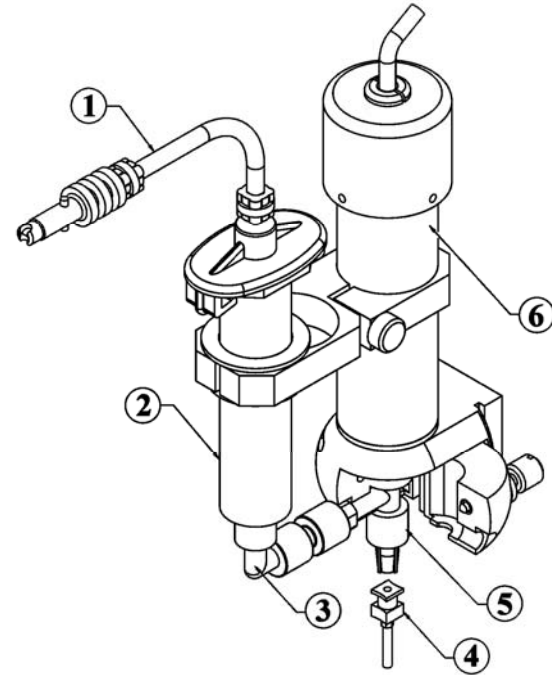

Figure 1.0
## 4. THEORY OF OPERATION (refer to figure 1.0)
**Removal of a feed path assembly:** Refer to figure 1.0
1. Release fluid pressure by disconnecting the air hose (1).
2. Remove syringe barrel of fluid (2) from the valve.
3. Remove dispense tip (4).
**Installation of a new feed path assembly:** Refer to figure 1.0